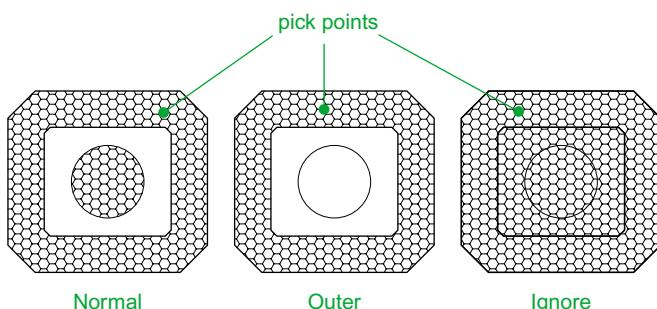

Fig. 8.17 Fifth example – advanced hatching
### Fifth example – advanced hatching (Fig. 8.17)
1. Construct a drawing which includes three outlines as shown in the left-hand drawing of Fig. 8.17 and copy it twice to produce three identical drawings.